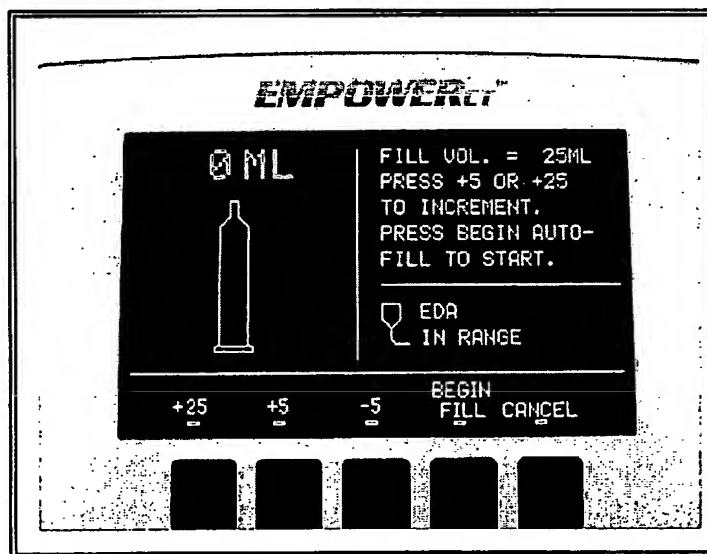
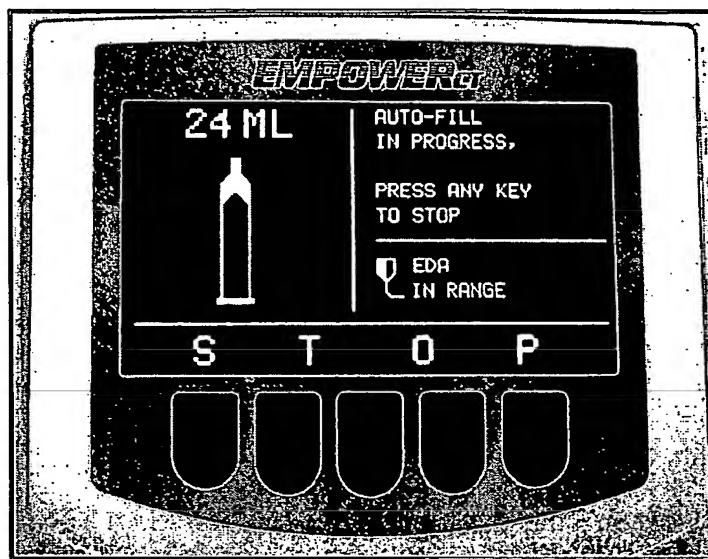

Figure 2.13 Auto-Fill
Figure 2.14 Auto-Fill
5. As shown in Figure 2.13, press the membrane buttons until the desired fill volume of contrast media is displayed near the upper right corner of the screen. This value will be maintained for subsequent injections or until it is overridden by further changes to the AUTO-FILL function.
- When the desired volume of contrast media is displayed on the screen, press and hold down the membrane button associated with **BEGIN FILL** (Figure 2.13) until they are replaced by the word **STOP** (Figure 2.14). The Injector Controller will beep twice, and the syringe plunger will begin to retract. Contrast media will then be withdrawn from its bottle into the syringe. When holding the contrast media bottle maintain its orientation such that the end of the J-Tube does not create a vacuum with the contrast media bottle's bottom surface. Creating a vacuum will produce unwanted cavitation bubbles in the contrast media that will be difficult to purge. Additionally, relieving the vacuum after filling could cause unwanted contrast media spillage.